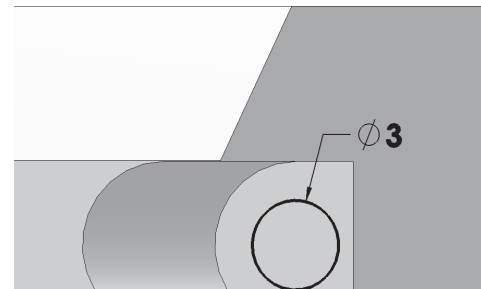

Fig. 52
Step 4. Click **Smart Dimension** (S) on the Sketch toolbar.
Step 5. Dimension **diameter 3**, **Fig. 52**.